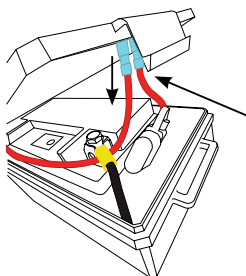

Fig. 2
- 2.** Inside you will see two red wires leading to the pushbutton switch on the cover of the battery box (Fig. 2). Carefully disconnect the wires from the switch by gripping the blue connectors and pulling them gently off of the switch. You will not be able to fully open the cover until these wires are disconnected.